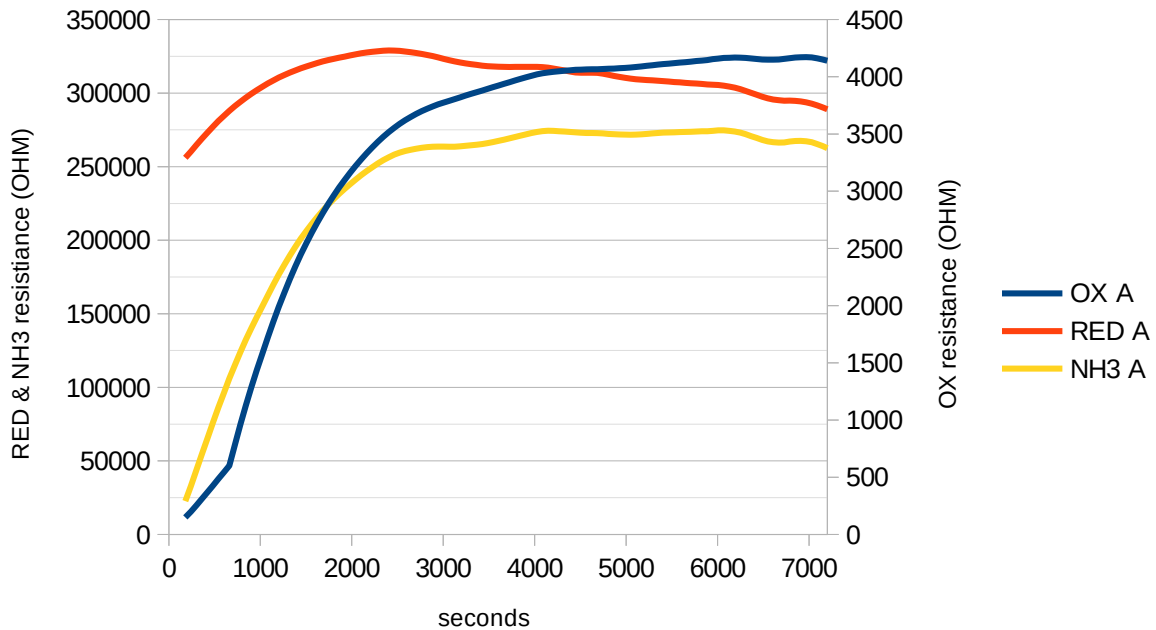

Figure 15: sample plot of GAS sensor resistance values over 2 hours
7. As you can see in Figure 15, it takes a while for the values to reach some form of stability and that assumes that neither temperature nor air quality changes significantly during that period. Also your values may be quite different. At least in my unit, RED and NH3 are in the 200-300K range while OX is much lower, around 10K. Note that in Figure 15, RED has not quite settled yet, so a longer measurement period may be needed.